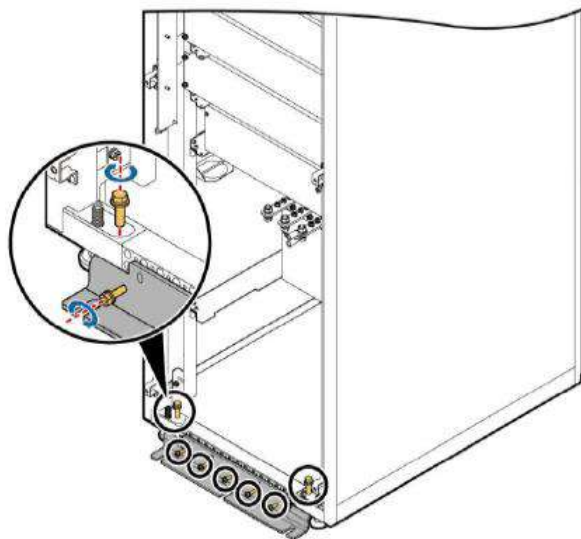
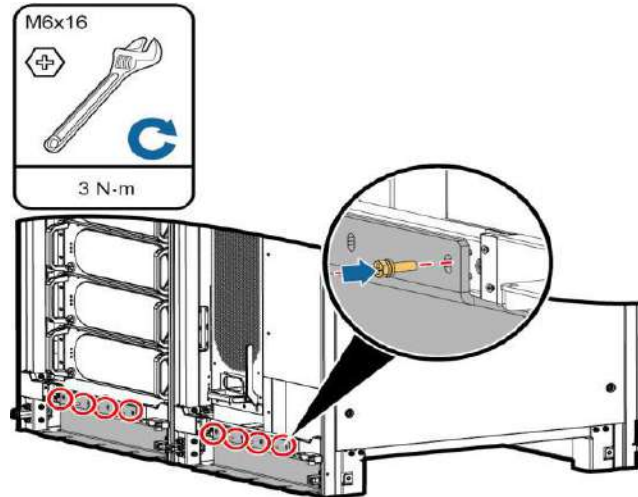

Fig. 2-57 Fixation of anti-seismic assembly on cabinet (300kVA)
Fig. 2-58 Fixation of anti-seismic assembly on cabinet (500kVA)
- Step 4: Use the screws M6 to fix the anti-seismic assembly on the front and rear of the cabinet respectively by at the tightening moment $3N\cdot m$. Exemplifying the front of the cabinet as an example, the specific operation is shown in Fig. 2-57 and Fig. 2-58.